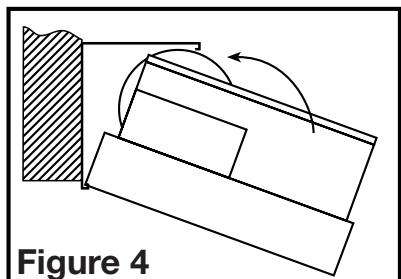

Figure 4
2. Snap the fan body into the bracket (**Figure 4**). The fan can be snapped into position with the duct collar facing to the left or the right depending which is most convenient.
3. Snap the fan body into the bracket (**Figure 4**). The fan can be snapped into position with the duct collar facing to the left or the right depending which is most convenient.